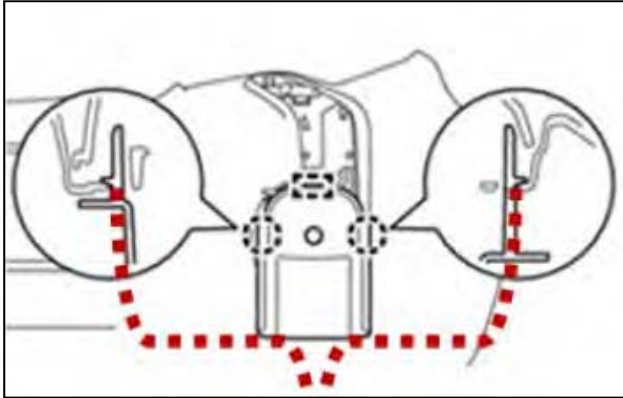

Figure 26
37. Repeat steps 30 through 37 on the passenger side. Prior to the removal of factory fog light, remove front bumper reinforcement stopper. See Figure 26. This will allow easier access to screws. Detach the 2 claws and guide to remove the reinforcement stopper. Using a pick tool, depress the two clips on the outside panel. Pull down and out gently.